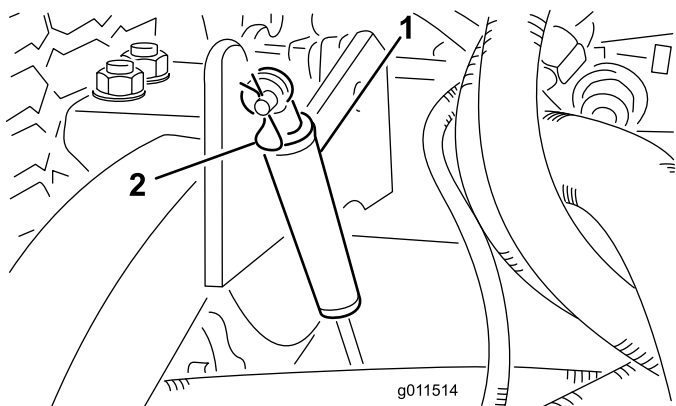

Figure 72
2. Remove the hairpin cotter securing dampers to lift arms (Figure 72). Pivot damper toward deck housing.